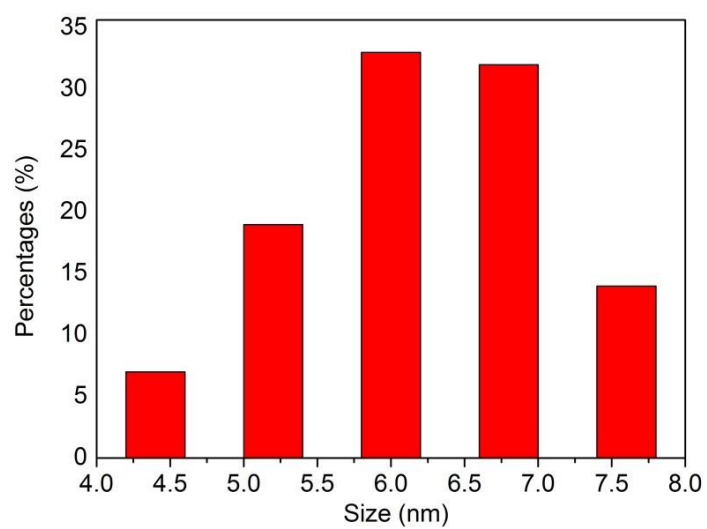

Fig. S5 The distribution of particle size for Ni@C-600.
- V. **Fig. S5** The distribution of particle size for Ni@C-600.